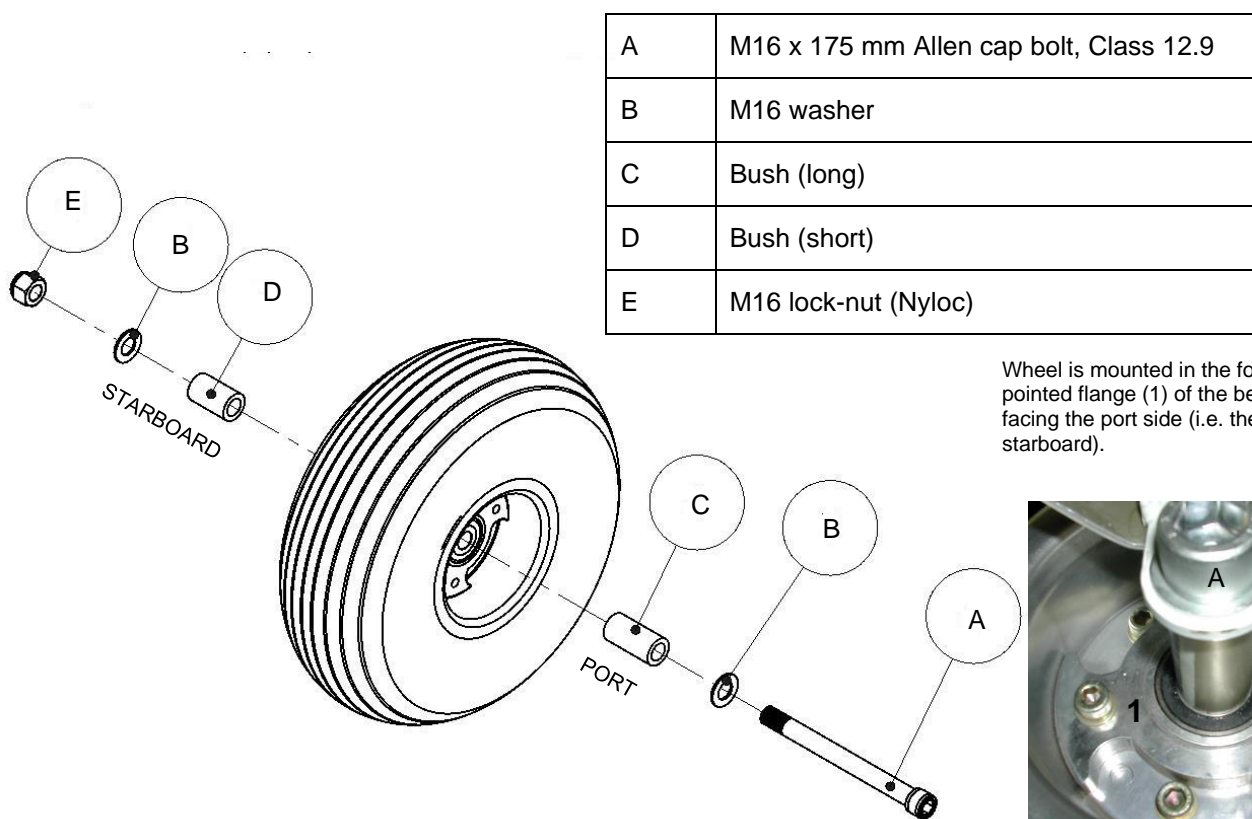

Figure 45: Nose wheel installation.
- Observe the correct placement of washers and bushes and the correct orientation of the nose wheel (refer to Figure 45). Note that the lock-nut faces the starboard side of the aircraft.